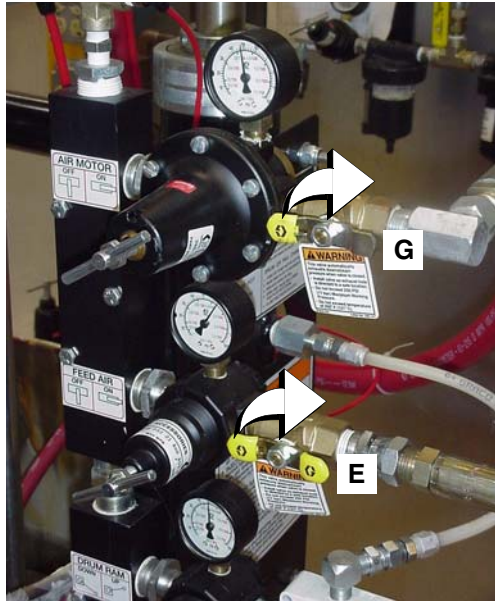

FIG. 19
1. Make sure the air motor and catalyst feed air shutoff valves (G and E) are closed, FIG. 19.
4. Close the feed air shutoff valve (E) and reconnect the catalyst hose to the mix manifold, FIG. 19. Continue with step 8.